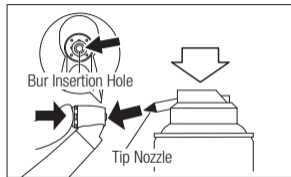

Fig. 9
- 2) Lubricate the chuck directly through the bur insertion hole (Fig. 9).